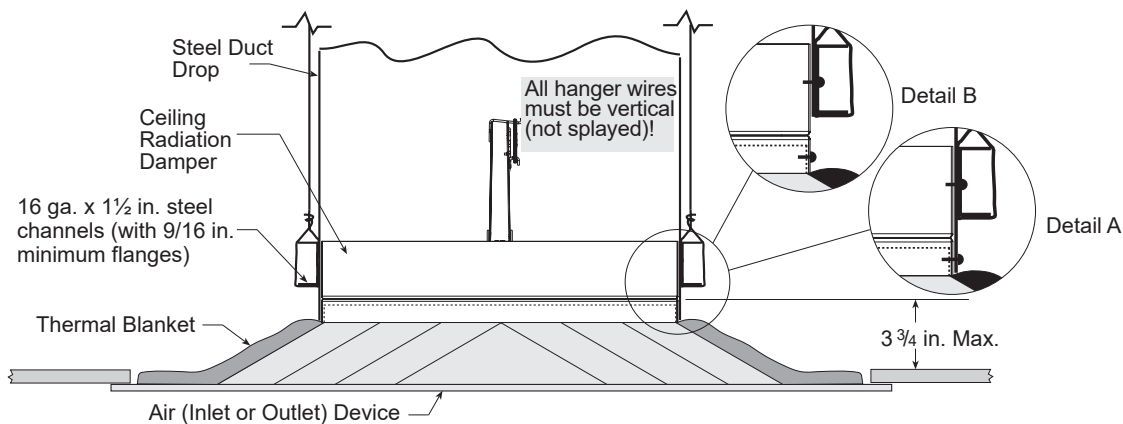

Figure 8
1. Ceiling radiation damper and air device neck may be connected directly to the duct drop (see **Detail A, Figure 8**).
2. Ceiling radiation damper may be connected directly to the air device neck and then the duct drop connected to the damper (see **Detail B, Figure 8**).
Models CRD-1, CRD-1LP, CRD-2, and CRD-60 may be installed as shown in Figure 8 (Model CRD-1 & CRD-1LP illustrated).